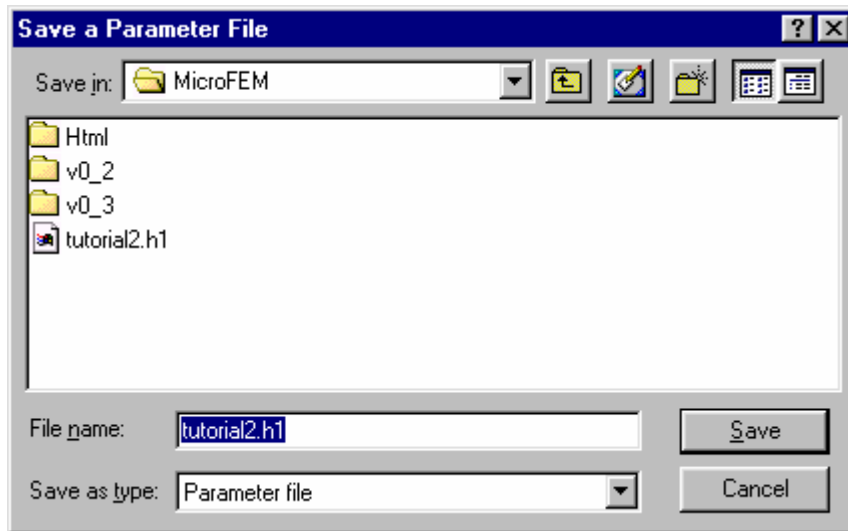

Figure 41: Parameter file I/O window
2. Either click in the toolbar below on the -button, or press the F12-key, or select Command → Save parameter file from the main menu. In the ensuing file pop-up window (Figure 41), leave the file type as Parameter file and supply a suitable name. MicroFEM supplies a default file name comprising of the base model's name and an extension referring to the parameter type (see on-line help for an overview of file extensions).